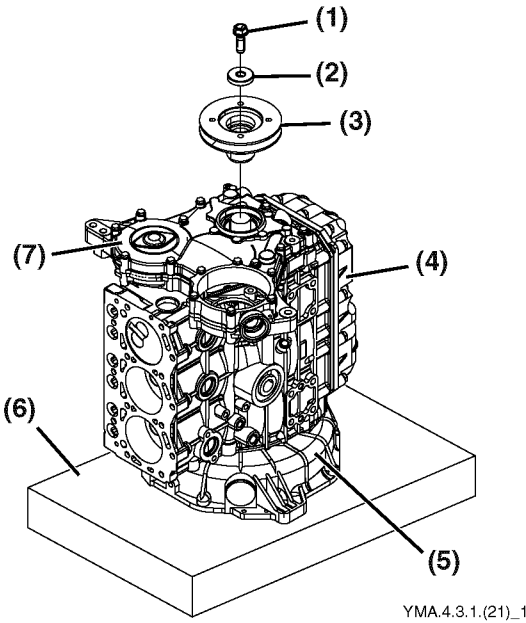

Figure 5-66
- 1. Remove the bolt (Figure 5-66, (1)) securing the crankshaft V-pulley (Figure 5-66, (3)).